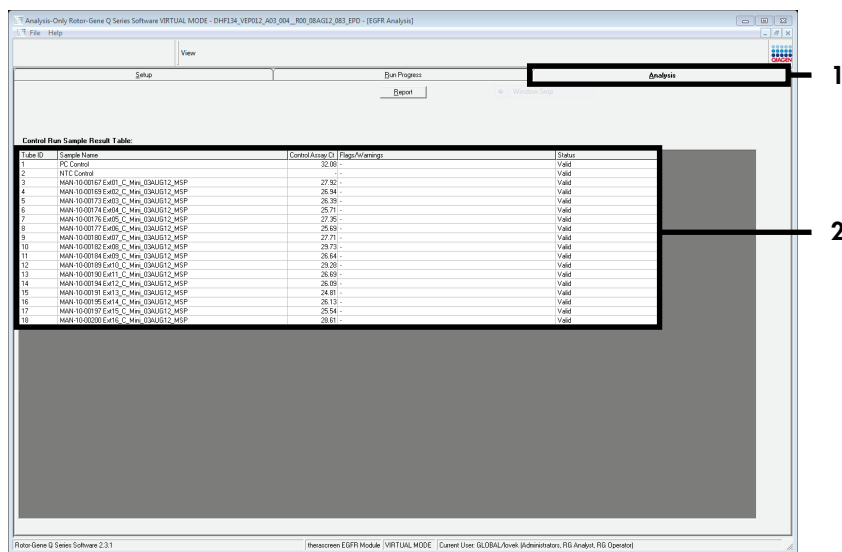

Figure 8. “The “Analysis” tab (1) and reporting of results (2 = “Sample QC Result Table”).
**Note:** After the run is finished, the “Analysis” tab opens. If the Analysis tab fails to open, click the Analysis tab (Figure 8).
Control results are reported as follows in the “Sample QC Result Table” (Figure 8).